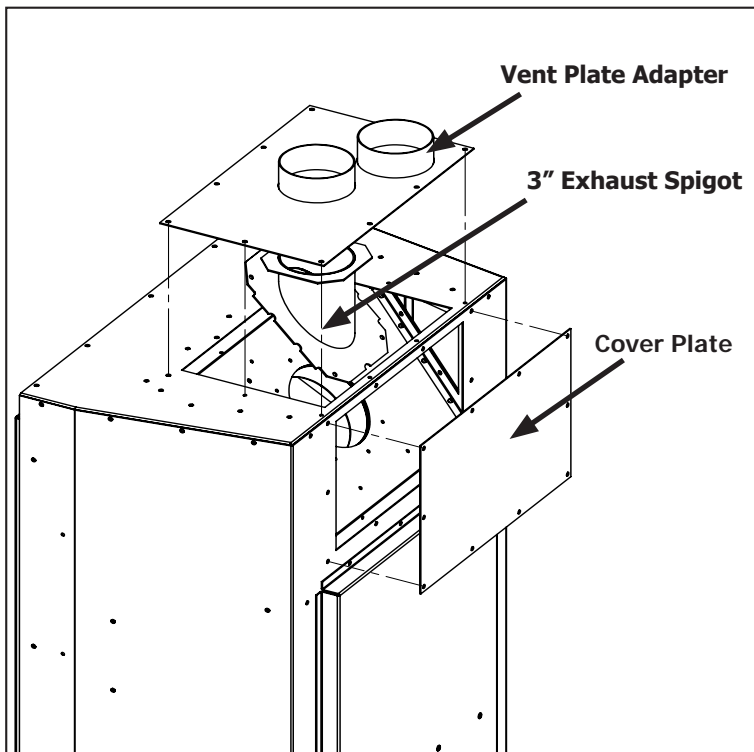
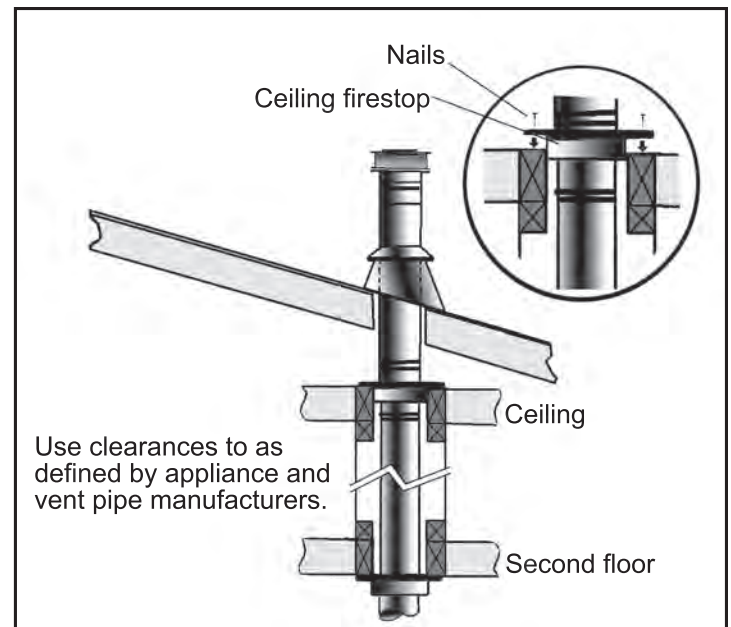

Figure 45: Installation of Co-Linear Vent Kit
**Figure 50. Use of Wall Straps.**
- (1) If an offset is necessary in the attic to avoid obstructions, it is important to support the vent pipe every 3 feet (914 mm), to avoid excessive stress on the elbows, and possible separation. Wall straps are available for this purpose (see Figure 50).
- (2) When ever possible, use 45° degree elbows instead of 90° degree elbows. The 45° degree elbow offers less restriction to the flow of flue gases and intake air.
- (3) For multi story installations; a ceiling firestop is required at the second floor, and any subsequent floors (see Figure 45). The opening should be framed to 10" (254 mm) x 10" (254 mm) inside dimensions, in the same manner as shown in Figure 33.
- (4) Any occupied areas above the first floor, including